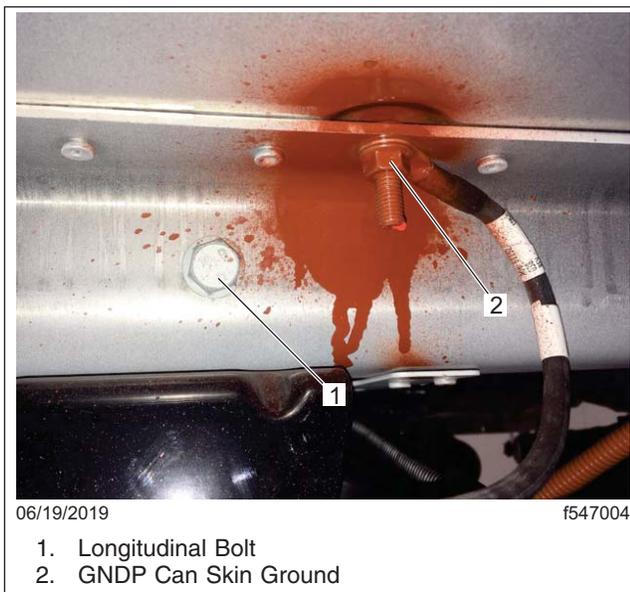

Fig. 3, Cab Skin Ground and Longitudinal Bolt
- Relocate GNDP cab skin ground (**Fig. 7** on page 9) to the longitudinal bolt near the floor stud. This will require replacing the original GNDP ring eye terminal (23-12446-063) with a 6 AWG 3/8-inch ring eye cable end (p/n 23-11194-506) that fits on the 10-mm longitudinal bolt; the left cab splash shield will need removed for this repair. Remove the longitudinal bolt, and clean the cab skin around longitudinal bolt as needed. Install the GNDP ground cable and longitudinal bolt, and torque to 33 lbf-ft (45 N·m). See **Fig. 3**.